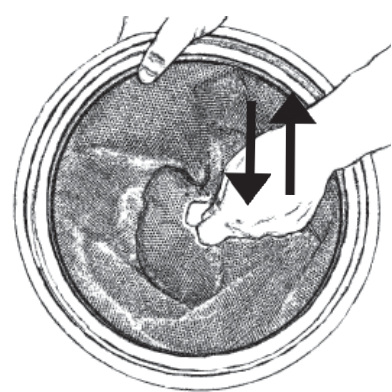

Fig. 22
1. Replace the cleaned/shaken bag filter in the container, Fig. 22. Make sure the filter support fits into the inner edge of the dust container properly. Check that the filter is fitted the right way up - the cloth handle on the filter should be visible.